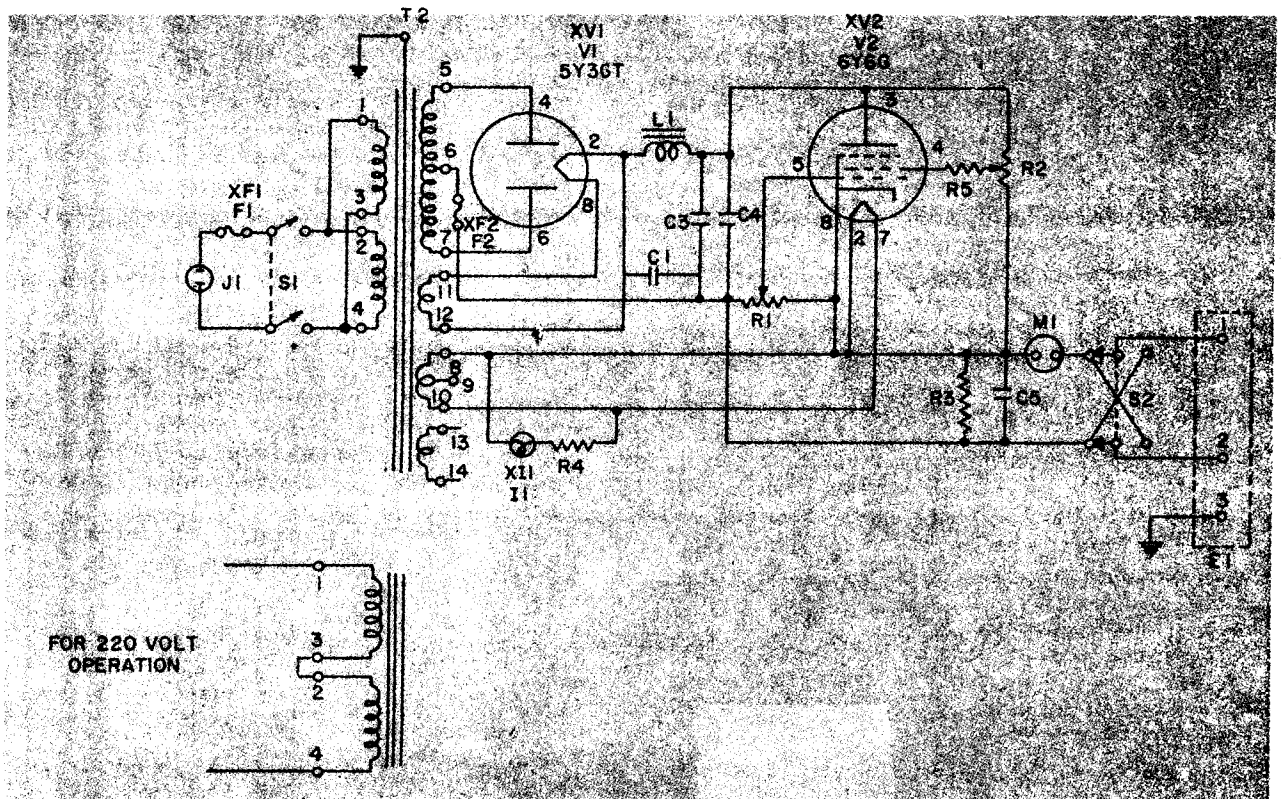

Figure 2. Interconnection Diagram for CV-803/ASW-13 and AN/SSW-1A when Using Adaptor Unit
When coupling the AN/SSW-1A MSG output (see figure 2) to the RMSG input, impedance and level problems exist. To overcome these problems, the circuit in figure (1) was developed and through impedance matching, level adjustment, and "OR gate" coupling, successful operation of the AN/SSW-1 test set up has been accomplished.
Steps 1 through 14 should be repeated for testing and adjusting at 90 and 60 scans to produce copy shown in figures 2 (a), (b), and (c) and 3 (a), (b), and (c), respectively. It may be necessary to select different value capacitors within the recommended range for the 90 and 60 scan tests and adjustments.